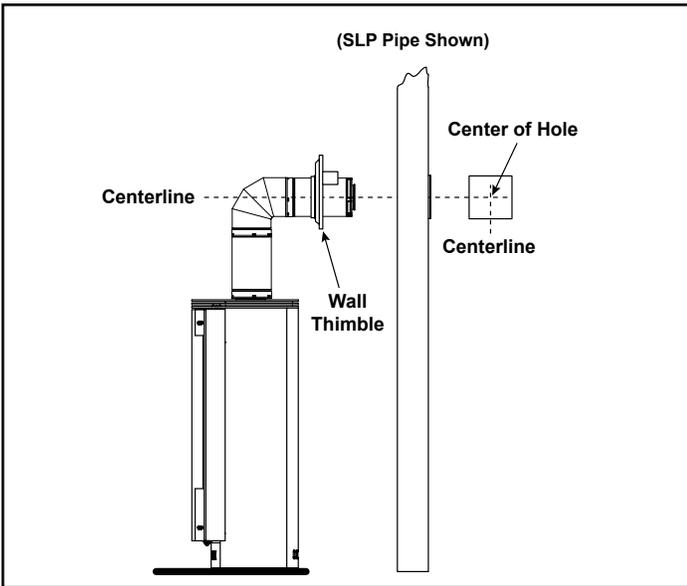

Figure 5.5
- For installations using a round support box/wall thimble (check pipe manufacturer's instructions), mark the wall for a 10 in. x 10 in. (254 mm x 254 mm) square hole. The center of the square hole should line up with the center line of the horizontal pipe, as shown in **Figure 5.5**. Cut and frame the hole in the exterior wall where the vent will be terminated. If the wall being penetrated is constructed of noncombustible material, i.e. masonry block or concrete, a 7 in. (178 mm) diameter hole is acceptable.